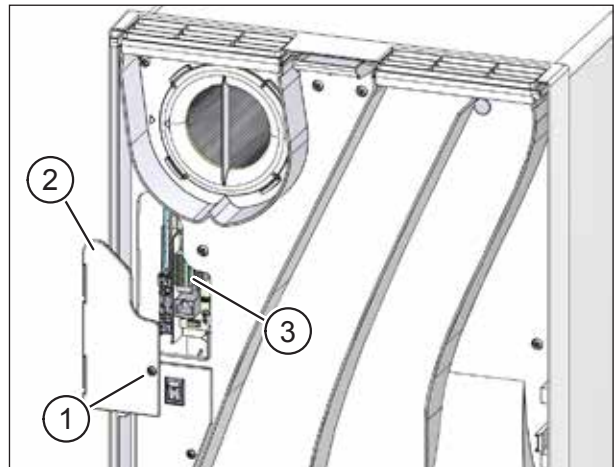

Fig. 25: Removing the electronics compartment cover plate
- ▶ Use the screwdriver to loosen the Torx screw (item 1 in Fig. 25) on the electronics compartment cover plate (item 2 in Fig. 25).
- ▶ Remove the electronics compartment cover plate to access the connection board (item 3 in Fig. 25).